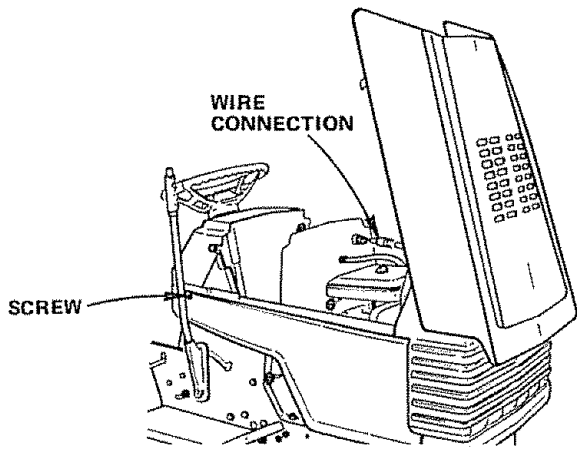

FIGURE 58
- a. Lift Hood. Disconnect Headlight Wiring Connection (Fig. 58).
- b. Unscrew one Screw at rear of each Side Panel (Fig. 58).